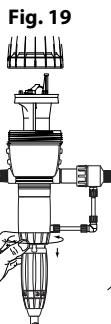

Fig. 19
- Unscrew the fixing nut of the dosing part (**Fig. 19**) and remove it.